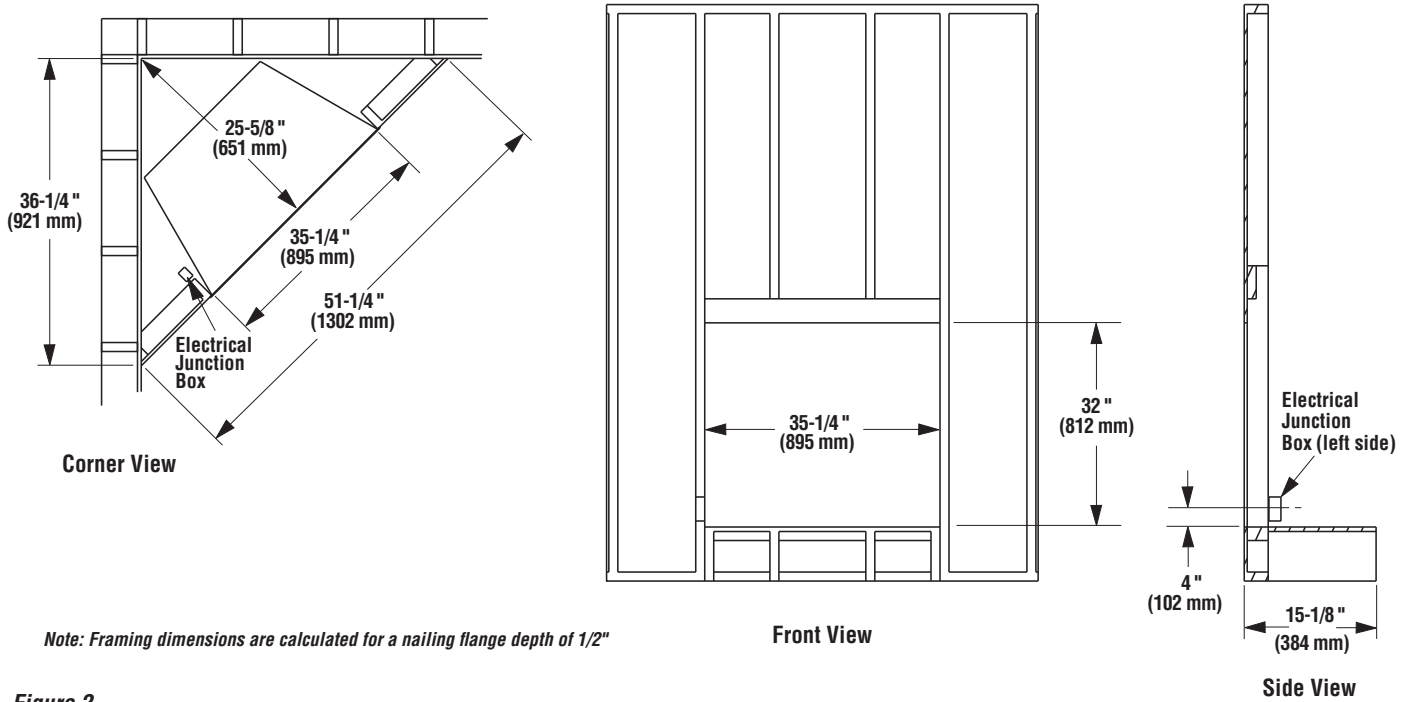

Figure 2
1. Complete the framing opening to the dimensions specified in **Figure 2**.
120 Volt Connections - Locate the power cord on the left side of the unit and connect it to the outlet installed during the framing (see **Figure 2**). Verify that the power to the receptacle is off.